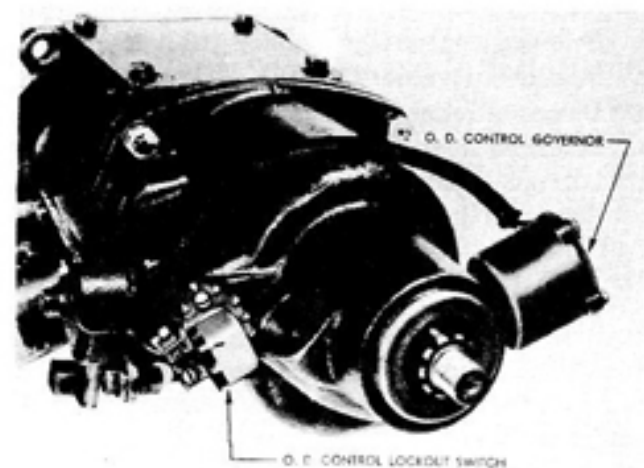

Figure 10.
c. Remove the wire between lockout switch and governor. Remove lockout switch and unscrew governor, using thin wrench or adjustable pliers on the hexagonal surface provided for this purpose. Do **not** use pliers or pipe wrench on the round body of the governor. (Fig. 10).